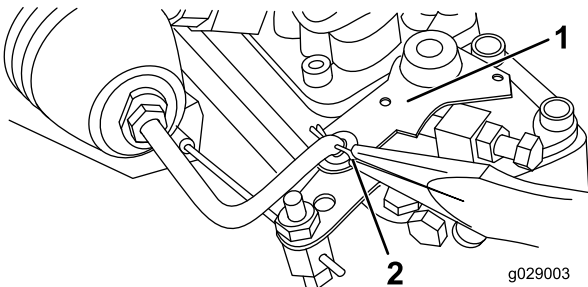
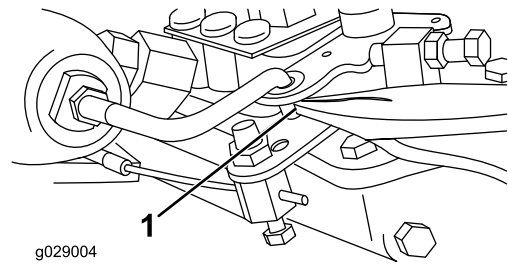

Figure 3
Figure 4
- Remove both upper and lower cotter keys securing the solenoid-stop arm to the engine-stop lever (Figure 3 and Figure 4).